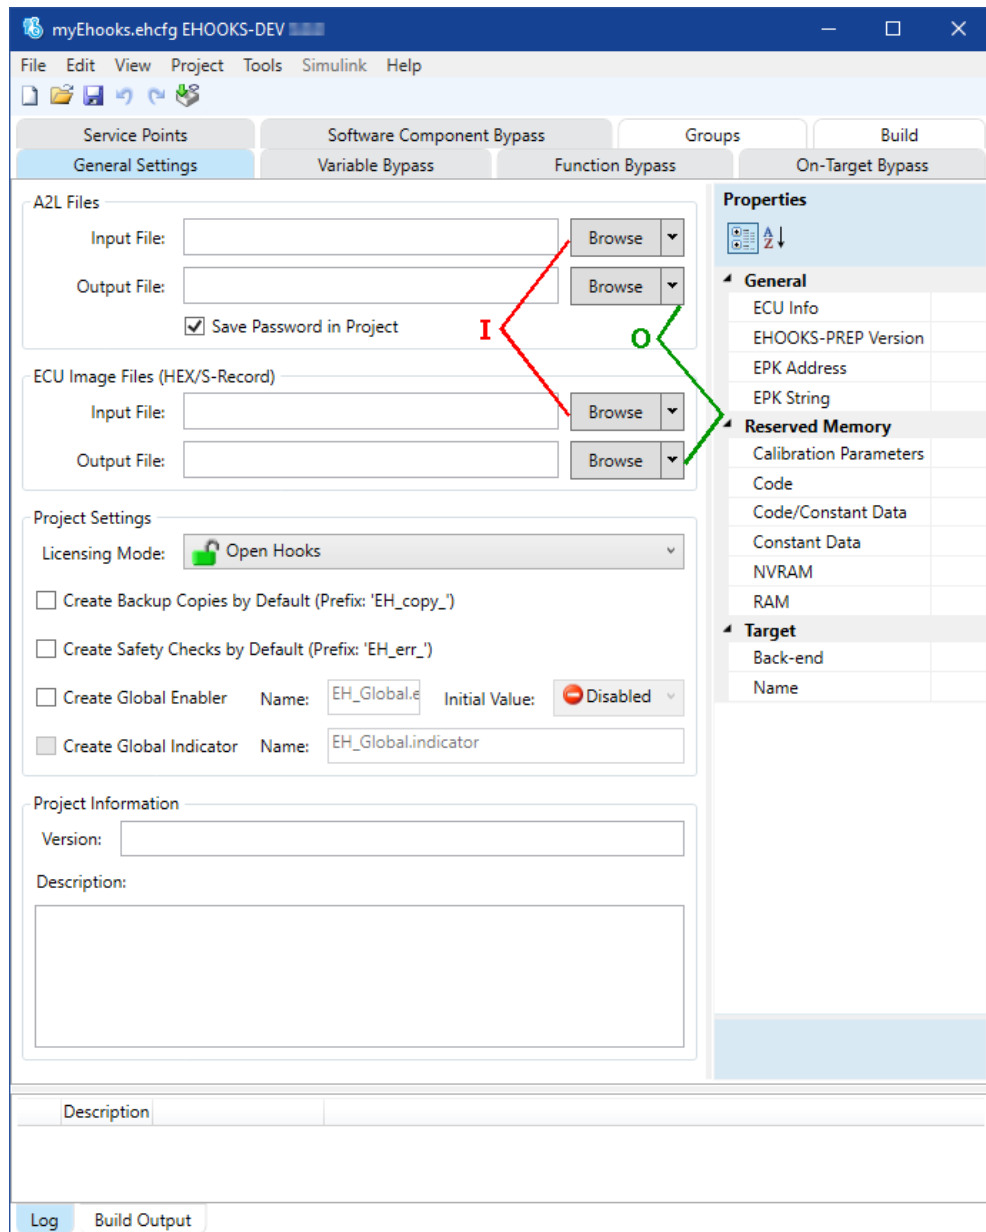

Figure 4.8: EHOOKS-DEV window: Choosing EHOOKS files (I: input files, O: output files)
2. In the EHOOKS-DEV window, use the first and third **Browse** buttons (I in Figure 4.8 on the next page) to select input `*.a21` and `*.hex` files.
5. In the EHOOKS-DEV window, use the second and fourth **Browse** buttons (O in Figure 4.8 on the next page) to enter output `*.a21` and `*.hex` files.